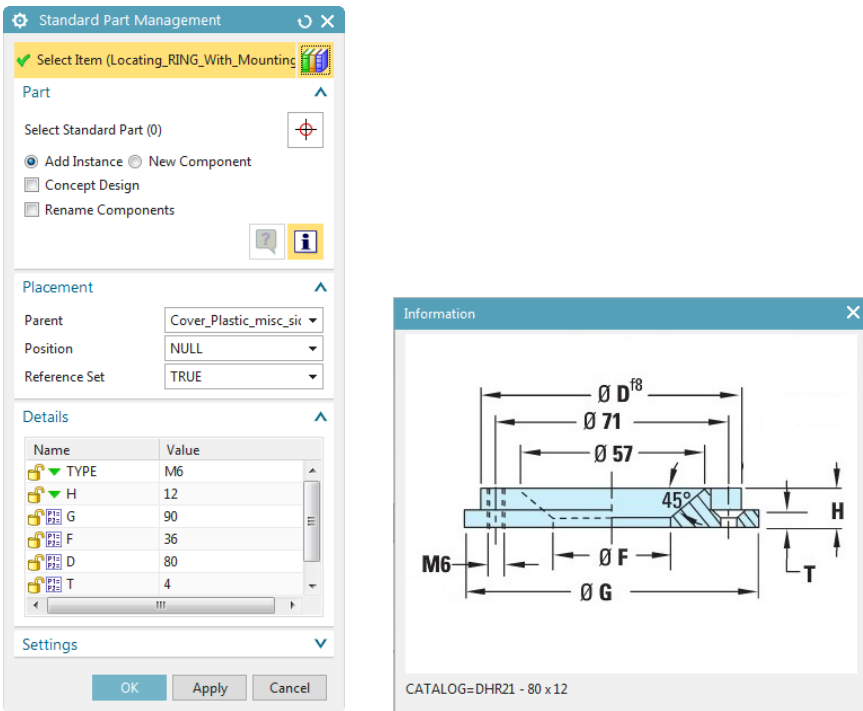

Figure 16-117 The *Standard Part Management* dialog box and the *Information* window
2. Double-click on the **Locating_Ring_With_Mounting_Holes[DHR21]** from the **Member Select** panel; the **Standard Part Management** dialog box is displayed with the **Information** window, refer to Figure 16-117.